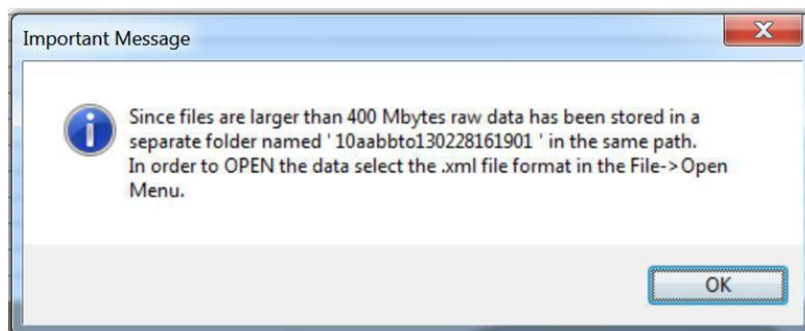

Fig. 9.5: Storage message.
- If the file data is larger than 400 Mbytes, due to large acquisition times, a message at the end of the acquisition will inform the user that the file has been saved in a different folder (see Fig. 9.5). In this case it is possible to visualize the data using the OT BioLab+ Open menu window also selecting the .xml file format and choosing this file named as the folder name.